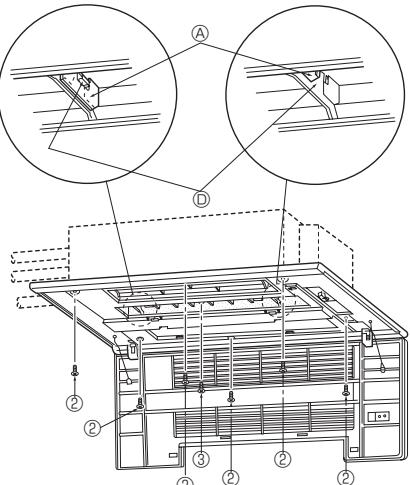
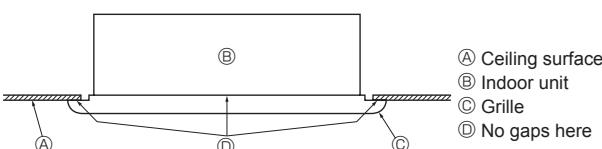

Fig. 7-3
Fig. 7-4
- Hook the temporary holding tabs on the front panel to the hooks on the indoor unit (see Fig. 7-3).
- Adjust the front panel so that it fits properly in the angle between the ceiling and the wall, and install the securing bolts ② (supplied with this grille) in their 4 places at left and right, leaving them slightly loose.
- Next tighten the securing bolts ② and securing screws ③ in the center 3 places.
- Finally tighten the securing bolts ② in the 4 places at left and right.
- At this point, make sure there are no gaps between the indoor unit and the front panel, and between the front panel and the ceiling surface. If there are gaps, the wind may come in and it may cause water to drip (see Fig. 7-4).
- \* Tighten the securing bolts ② and securing screws ③ completely.
### 7.4. Checks after installing (Fig. 7-4)